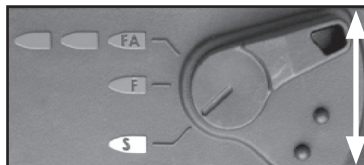

Figure 8: Selector Switch Operation (shown in Safe mode)
Safe mode (S): The Selector Switch is shown in Safe mode (Figure 8). Safe mode locks the Trigger, making the marker inoperable.